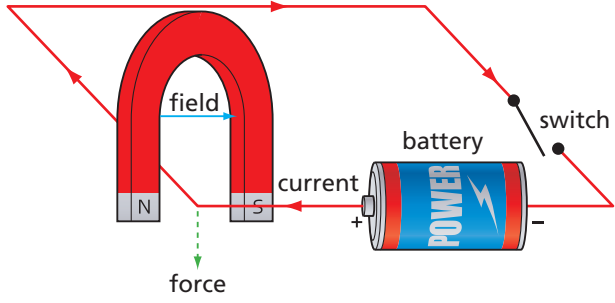

FIGURE 2.6.8b: The motor effect. What happens if the battery is disconnected?
In Figure 2.6.8b, when the permanent magnet is placed over the wire and the current passes through, there are two magnetic fields – one from the permanent magnet and one from the wire. These two fields will attract or repel, causing the wire to move. This is called the **motor effect**.
3. In Figure 2.6.8b, when the current is switched on, the wire moves downwards. What would happen if the battery were connected the other way around?
4. Can the set-up shown in Figure 2.6.8b produce any useful work?